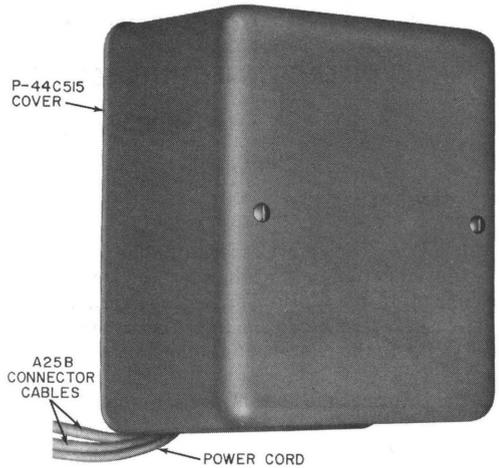

Fig. 2—F-58003 Interconnecting Service Unit (With Cover)
- Approximate dimensions are 16-1/2 inches high, 13-1/2 inches wide, and 10-1/2 inches deep (Fig. 2).